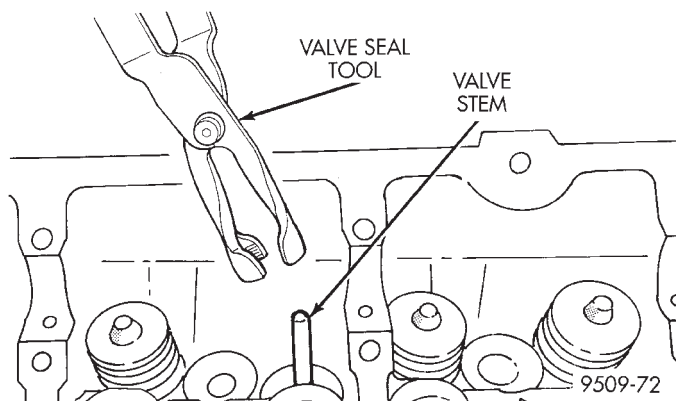

Fig. 44 Valve Stem Seal—Removal
(3) Remove air cleaner housing cover and inlet hose.
(4) Remove intake manifold plenum. Refer to Group 11, Exhaust System and Intake Manifold for procedure.
(5) Remove cylinder head cover(s).
(6) Remove crankshaft damper, timing chain cover, and timing chain. Refer to procedure outlined in this section.
(7) Remove camshafts. Refer to procedure outlined in this section.
(8) With air hose attached to spark plug adapter installed in the cylinder being serviced, apply 620.5 – 689 kPa (90 – 100 psi) air pressure. This is to hold valves in place while servicing components.
(9) Using Special Tool MD 998772A with adapter 6779, compress valve spring and remove valve locks, retainer, and valve spring.
(10) Remove valve stem seals by using a valve seal tool (Fig. 44).